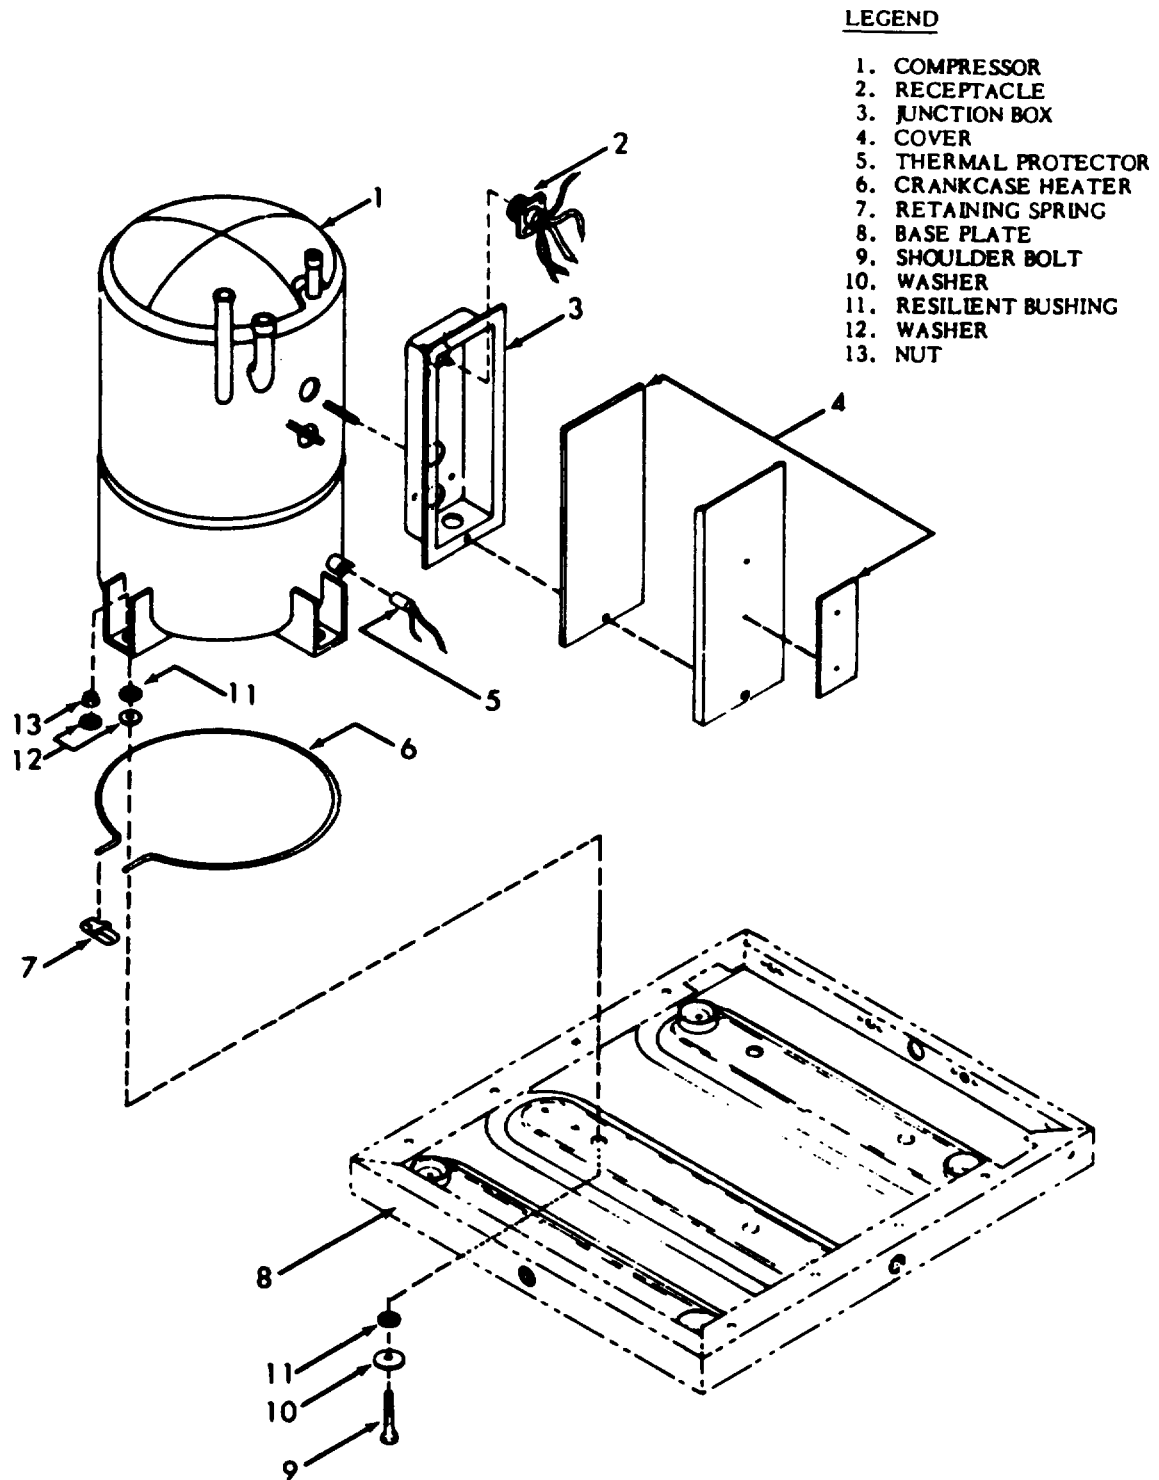

Figure 5-4. Compressor Details
- a. Remove the retaining spring (7, figure 5-4) from the ends of the crankcase heating element(6).
- b. Remove compressor junction box cover (4) and remove electrical receptacle (2) by removing four screws.
(1) Hoist the air conditioner onto support blocks of sufficient height to permit insertion of a socket wrench through the compressor mounting holes in the base plate.
(2) Remove four shoulder bolts (9) and nuts, (13), four bushings (11) and eight of each size of washers (10& 12) the four support legs of the compressor (See figure 5-4).
(3) Lever the compressor up, and slide it out of the air conditioner.
a. *Mounting.* Set the compressor in position on the base plate of the air conditioner. Lever the compressor up, and insert bushings and washers under support feet (See figure 5-4). Install shoulder bolt and washers from below, and install nut and washer on top of mounting foot.